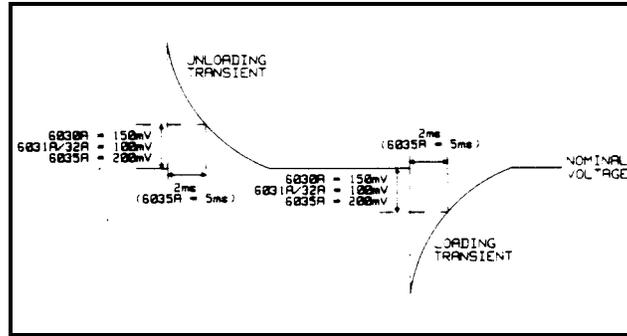

Figure 2-8. Load Transient Recovery Waveform
- f. Adjust the oscilloscope to display transients as in Figure 2-8.